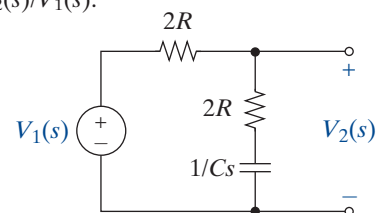

FIGURE P11-1
- 11-1 Find the driving point impedance seen by the voltage source in Figure P11-1 and the voltage transfer function $T_V(s) = V_2(s)/V_1(s)$.